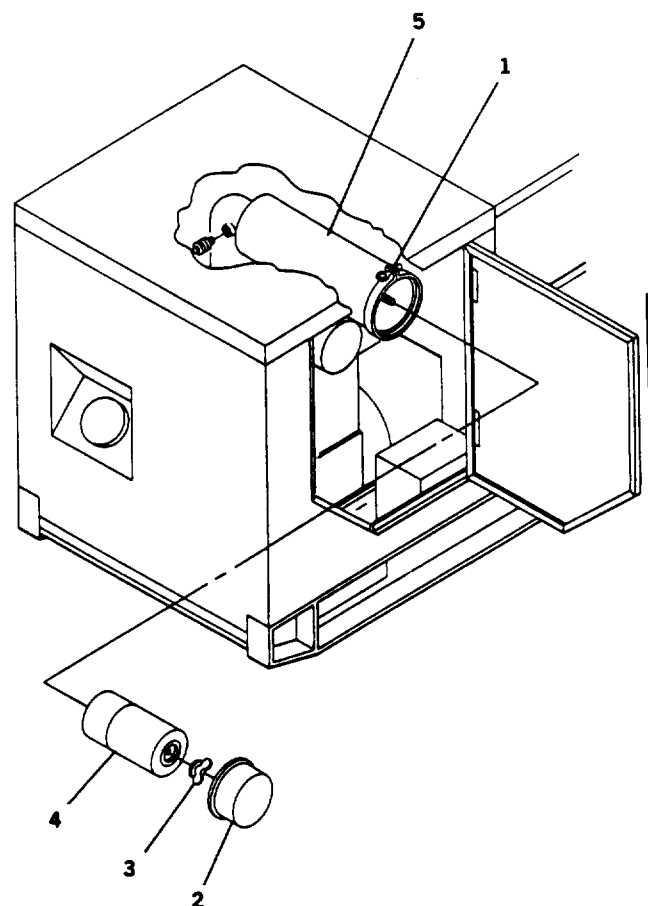

FIGURE 3-1. Air Cleaner Element Replacement
3-3.3 Air Cleaner Assembly (FIGURE 3-1).
- c. Inspect air cleaner housing (5, FIGURE 3-1) for dents,
- c. Loosen wing nut clamp (1, FIGURE 3-1) and remove end cap (2) on air cleaner housing (5).
- d. Remove wing nut (3) and air cleaner element (4). If fouled, discard air cleaner element.
- e. Inspect inside of air cleaner housing (5) for debris. Wipe air cleaner housing interior with clean lint-free cloth.
- f. Install air cleaner element (4), wing nut (3), end cap (2) and tighten wing nut (1).